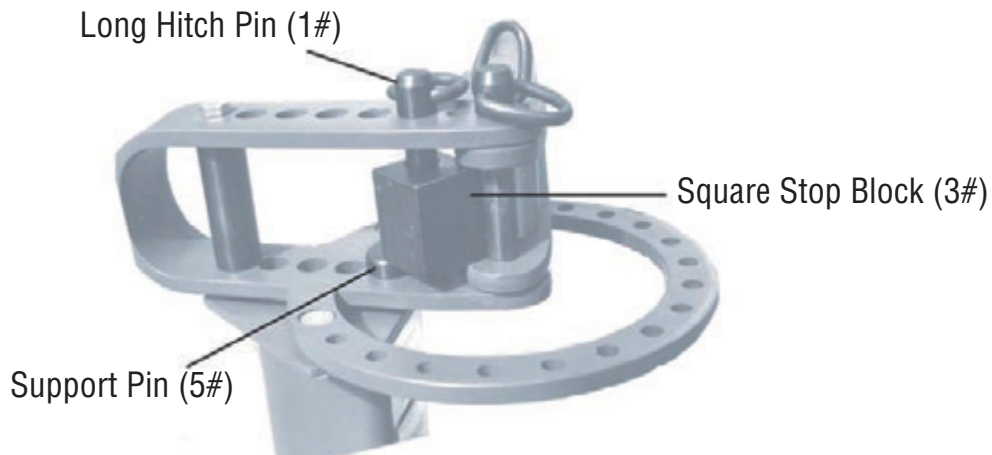

Figure 4
Step 1) Place the Support Pin (5#) into the hole under the Square Stop Block (3#) so that the Square Stop Block (3#) will sit correctly in relation to the Ring Assembly/Die Receiver (10#) -see **Figure 4**.